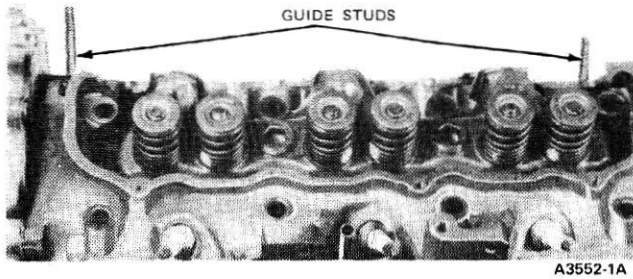
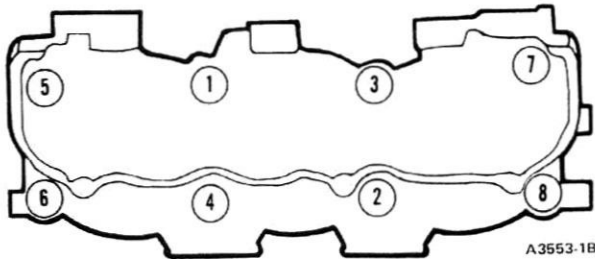

FIG. 12 Cylinder Head Guide Studs
FIG. 13 Cylinder Head Bolts Torque Sequence
2. Install cylinder head assemblies on cylinder block one at a time. Guide carefully over positioning studs (Fig. 12). Tighten attaching bolts in sequence shown in Fig. 13 to specifications.